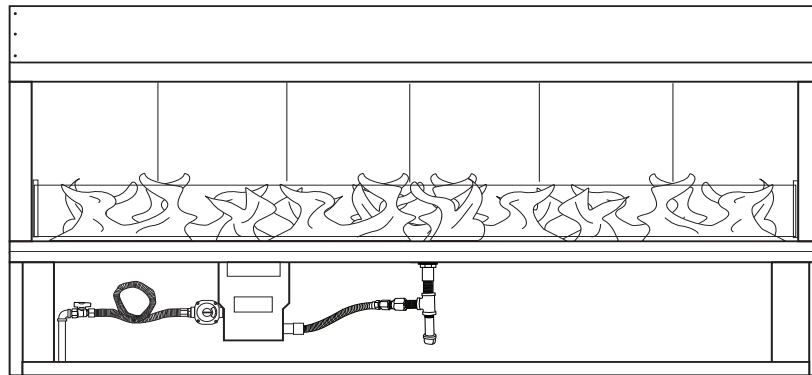

Fig. 31 Proper flame height.
Proper flame height (Fig. 31) should be at the top edge of glass windshield (peaking above at times) while on HI setting. **Note:** Glass windshield is 7-inches tall. The LO setting will be at least half of the height of HI or maybe lower. There can be a variance in flame height between Natural Gas and Liquid Propane (LP) Gas models.